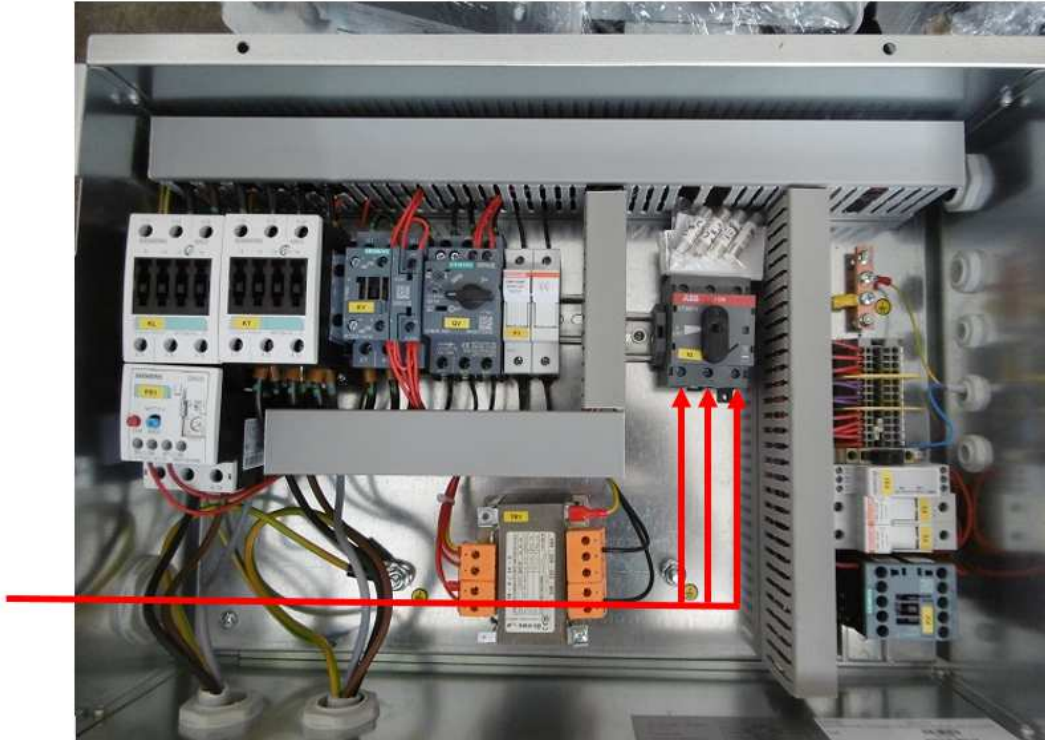

Figure 5
- 1- Insert the power supply cord through the cable seal and run it as indicated by the red arrow in figure 5.